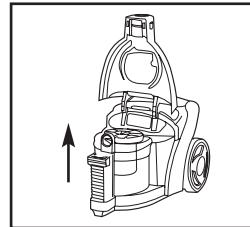

Fig.4
3. Depress top cover release buttons **15**. Lift the top cover. Hold the handle of dust container **21** (without pressing the dust container release button **20**) and lift it out (Fig.4).